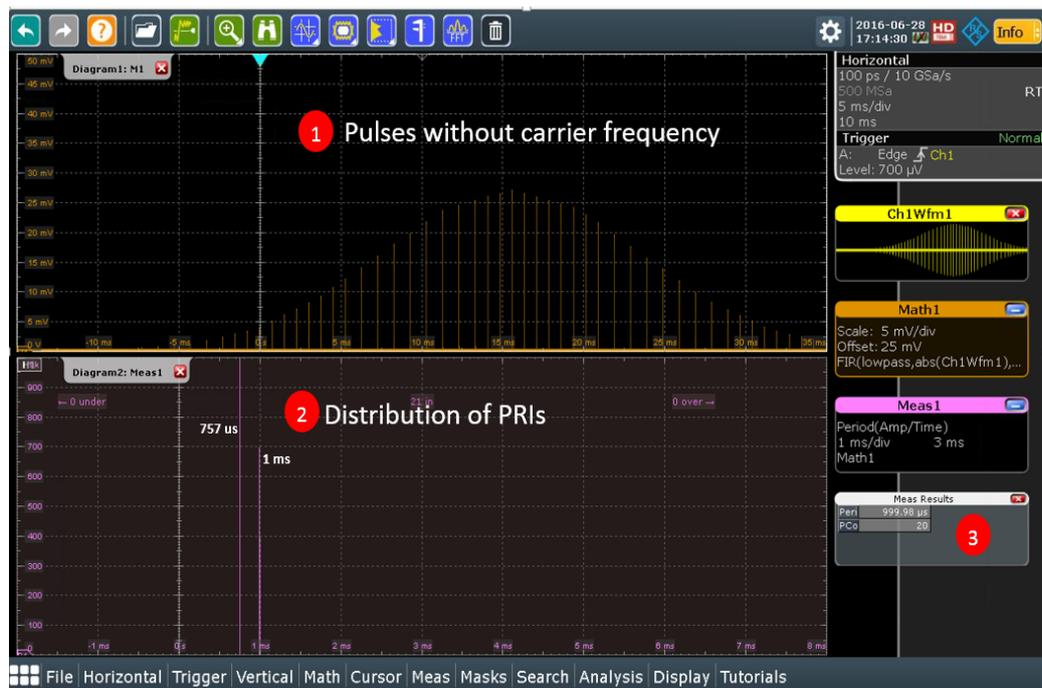

Figure 10: Distribution of PRIs
In Figure 10 you can see the two diagrams. The top diagram shows the RADAR signal without the carrier frequency. The lower diagram reveals the distribution of the pulse PRIs within the acquisition duration.
This section describes the steps to get a list view of the captured pulses within an acquisition. It relies on the setup seen from Figure 10. The outcome will be a table with the pulse width of each acquired pulse that can be exported into a \*.csv file.
5. Select the Range to **[Longer]**, since Figure 10 reveals that the min PRI is 753 us, select the **[Width]** to 700 us.